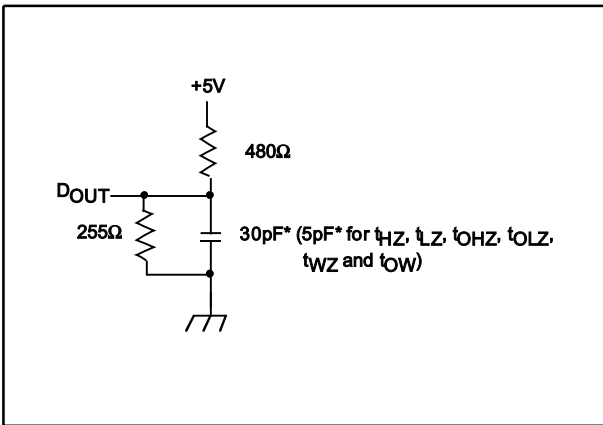

Figure 1. Output Load
- 9. Transition is measured $\pm 200mV$ from steady state voltage prior to change, with loading as specified in Figure 1.
Output Load	See Figures 1 and 2